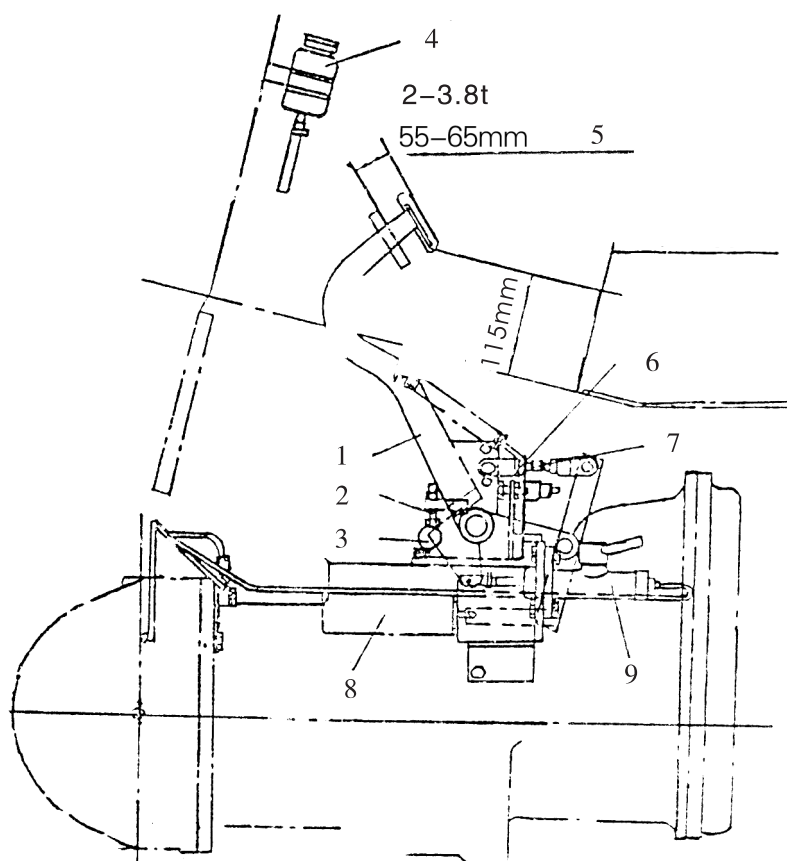

Fig.8-8 Brake pedal adjustment (truck with torque converter)
8.7 Brake Pedal Adjustment (Truck with torque converter) (See Fig.8-8)